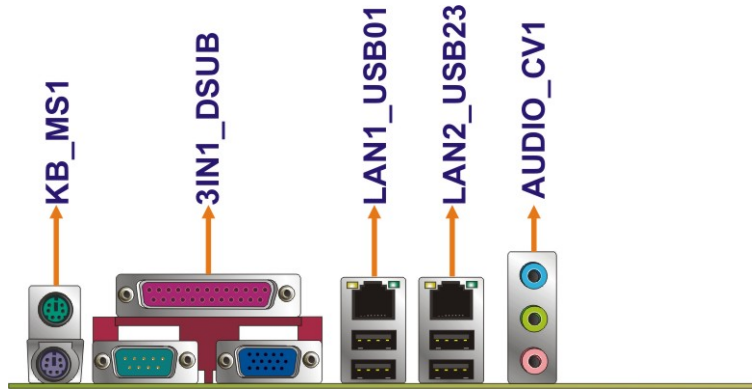

Figure 3-19: IMBA-Q454-R10 External Interface Connectors
Figure 3-19 shows the IMBA-Q454-R10 motherboard external interface connectors. The IMBA-Q454-R10 on-board external interface connectors are shown in Figure 3-19:
CN Location: See **Figure 3-19**
- CN Location:** See **Figure 3-19**